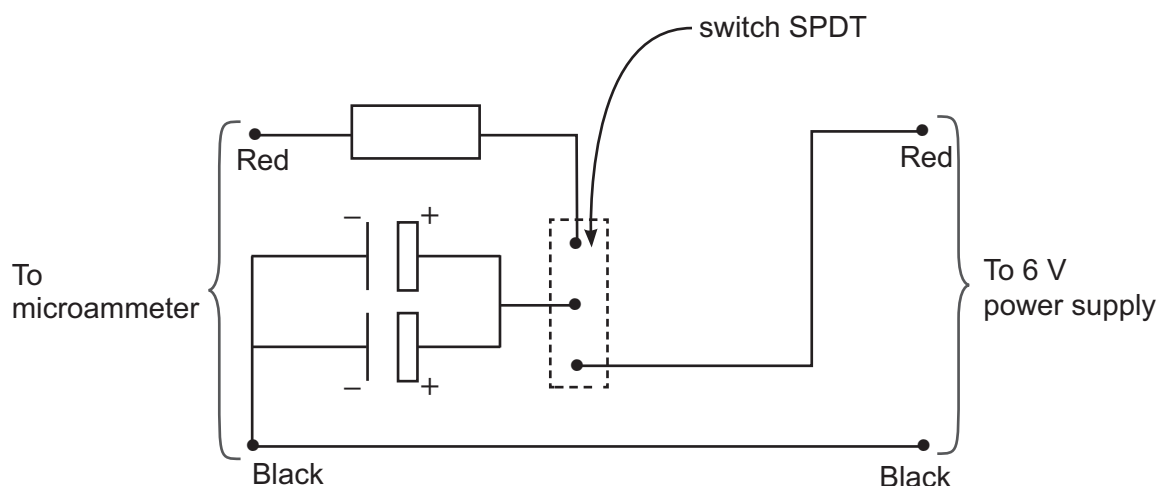

Fig. 2.2
1. On underside of box lid mount 2 red and 2 black 4 mm terminals as shown in **Fig. 2.2**.
3. Connect circuit as shown in **Fig. 2.2**. Observe correct polarity for capacitors. (Note: diagram shows the underside of the box lid viewed from above).